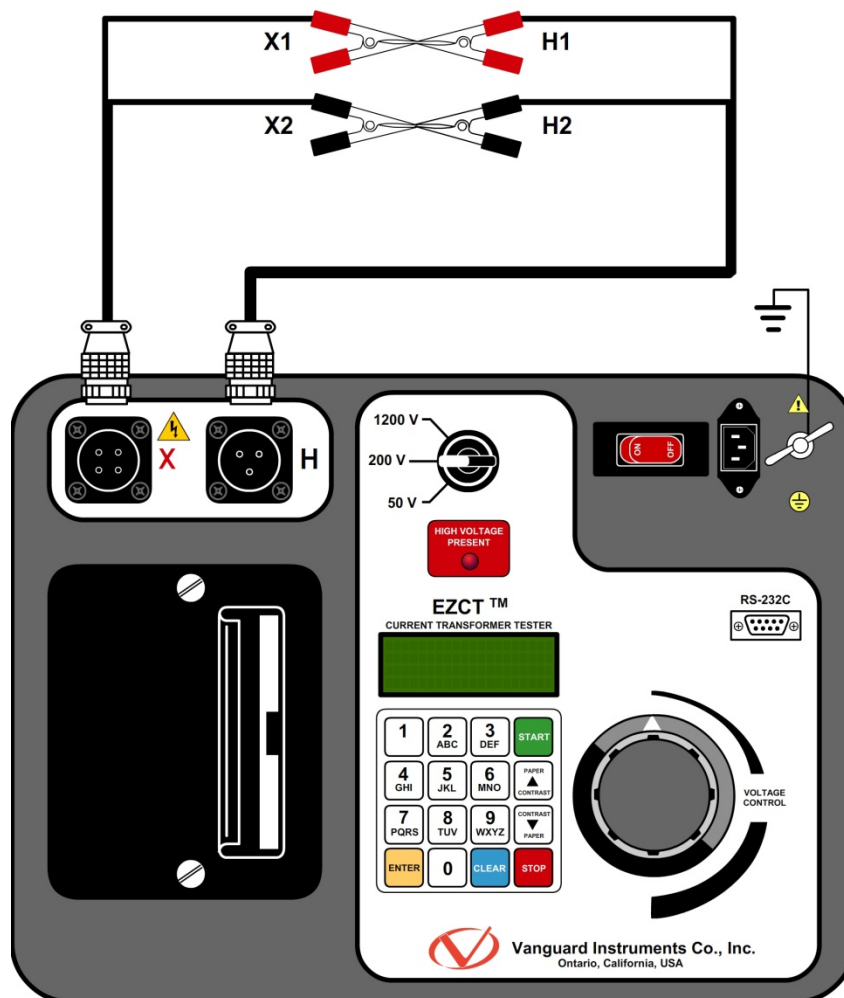

Figure 17. EZCT Turns Ratio Verification Test Connections
- Connect the X1 test lead to the H1 test lead as shown in Figure 17.
- Connect the X2 test lead to the H2 test lead as shown in Figure 17.